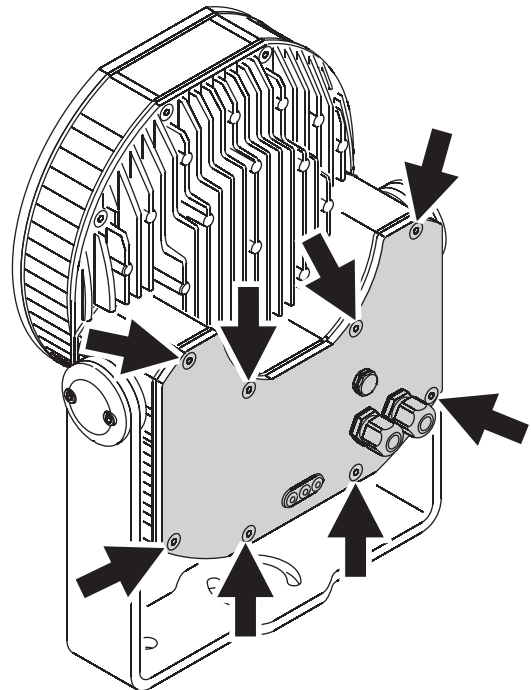

Figure 4: Rear cover retaining screws
3. See Figure 4. Remove the rear cover retaining screws (arrowed) and remove the rear cover.